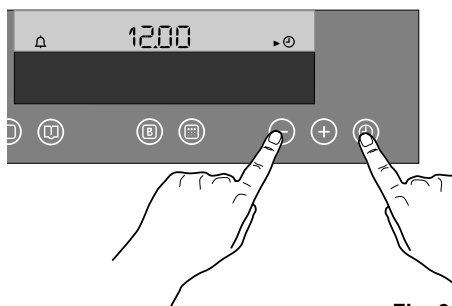

Fig. 20
2. Press controls  and "—" at the same time. A short acoustic alarm will be heard and the indication 12:00 will appear in the display (Fig. 20).